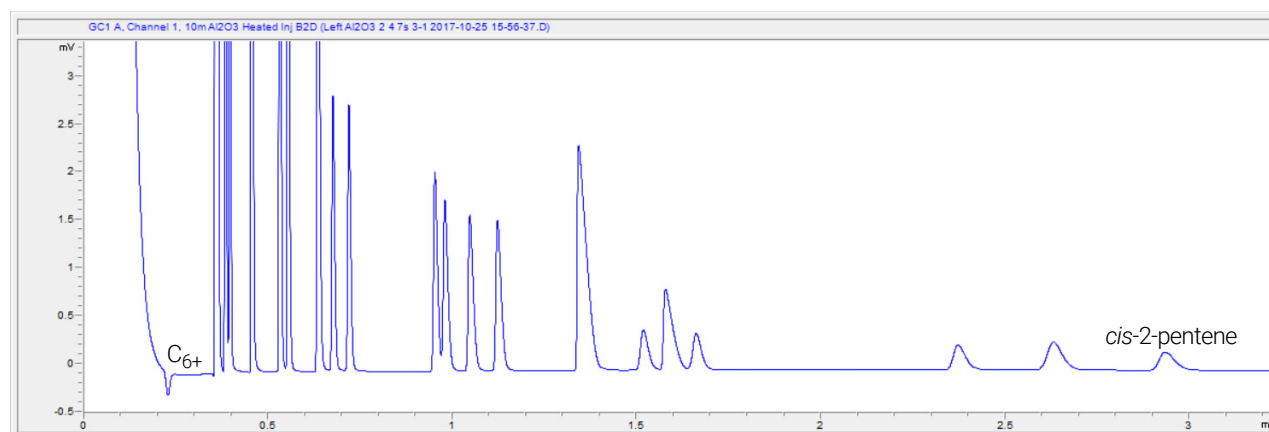

Figure 33. 10m Al₂O₃ Column for refinery gas analysis
- 1 Set backflush (BF) time to 0 seconds. Run method to obtain the peaks of all eluted components. Record the retention time (RT) of *cis*-2-pentene and *n*-hexane.
- 4 Finely tune the BF time, find the data point when the *n*-hexane peak is observed. Decrease BF time by 0.1 seconds steps, and start a run until the peak disappears (peak height < 3 μ V). Set BF time for this channel to that value minus 0.4 seconds. A typical "clean cut" time range of 10m Al₂O₃ BF2D channel is approximately 1-2 seconds. (See Figure 33.)